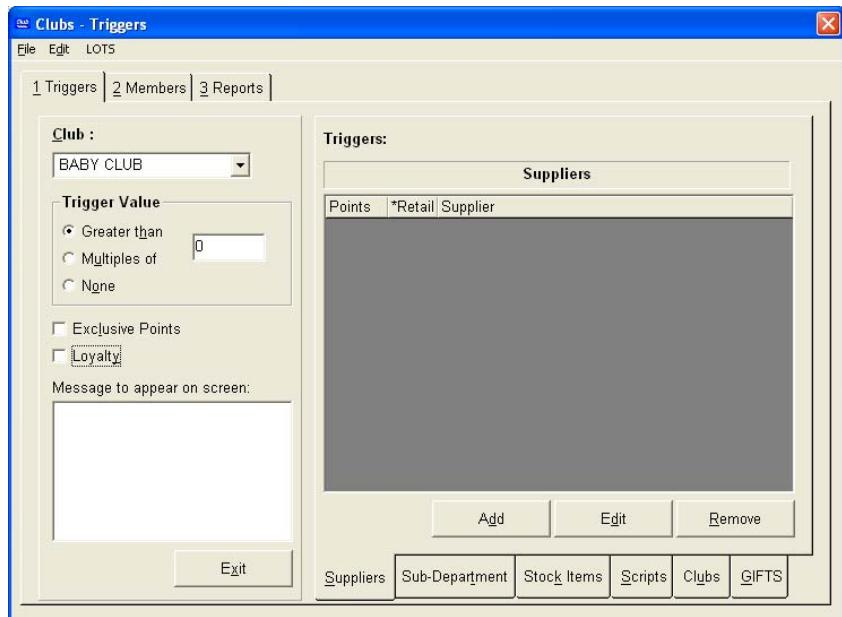

Figure 363
1. Select the 'Suppliers' tab along the bottom of the Club window (see Figure 363).